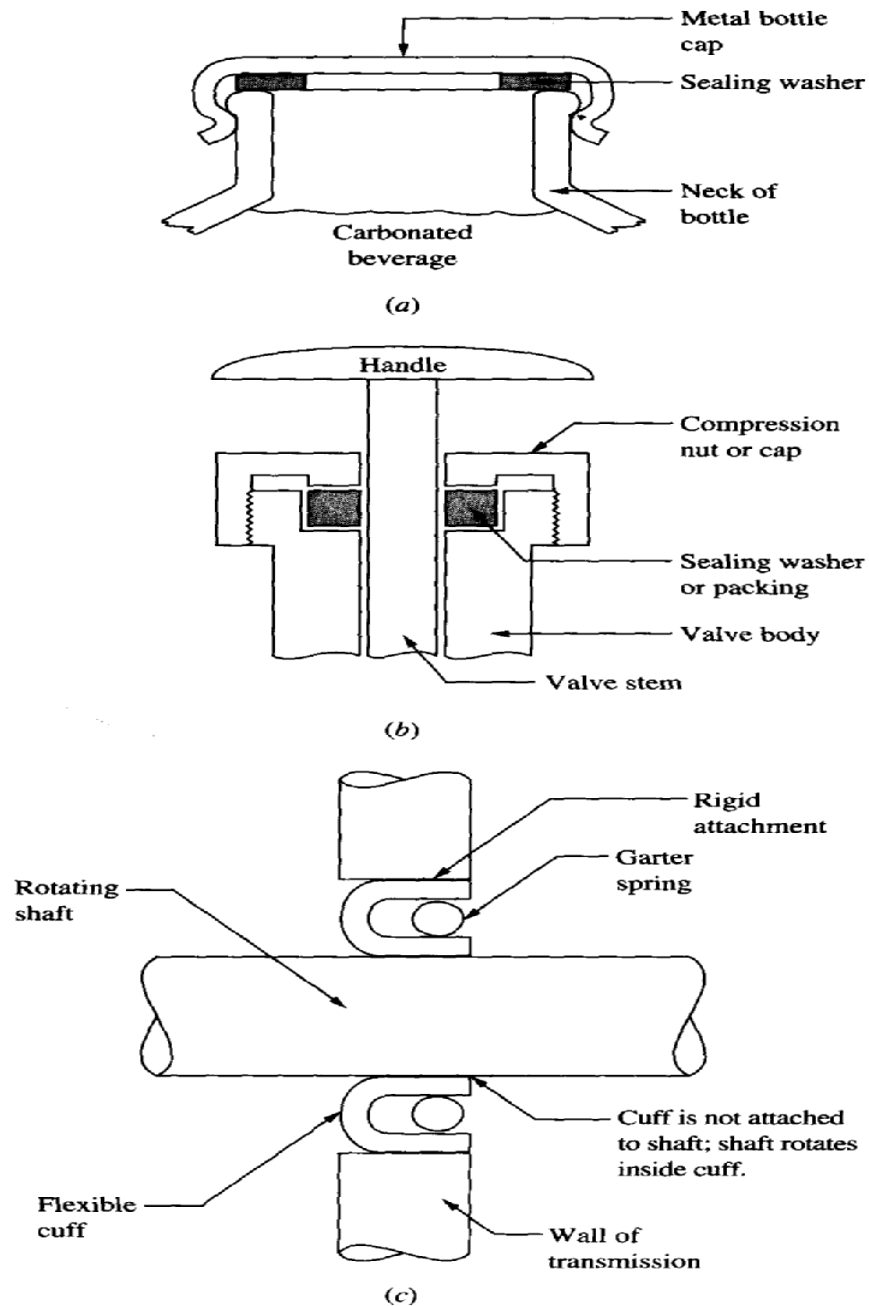

FIGURE 10.7
- Figure 10.7 shows three kinds of seals.